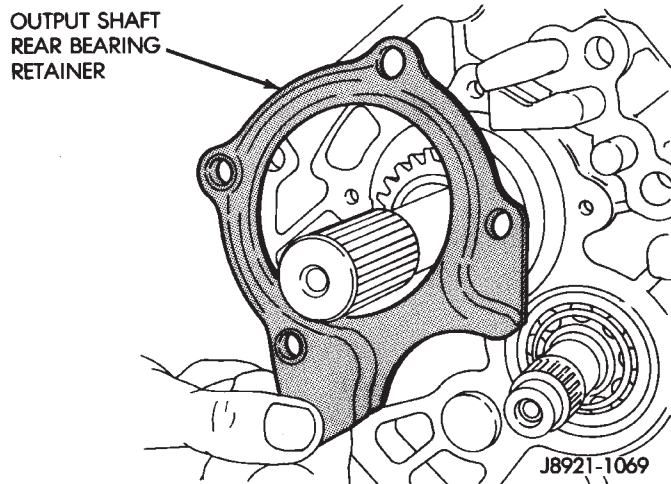

Fig. 39 Output Shaft Rear Bearing Retainer Removal
- (20) Remove rear bearing retainer (Fig. 39).